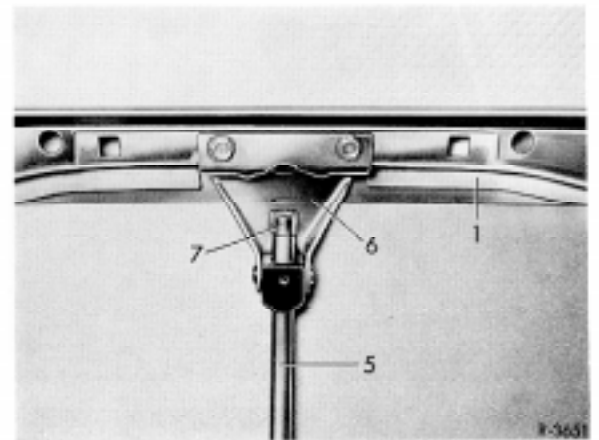

Fig. 4
4 Remove connecting clip (7) with sliding roof opened 1/4 (Fig. 4).